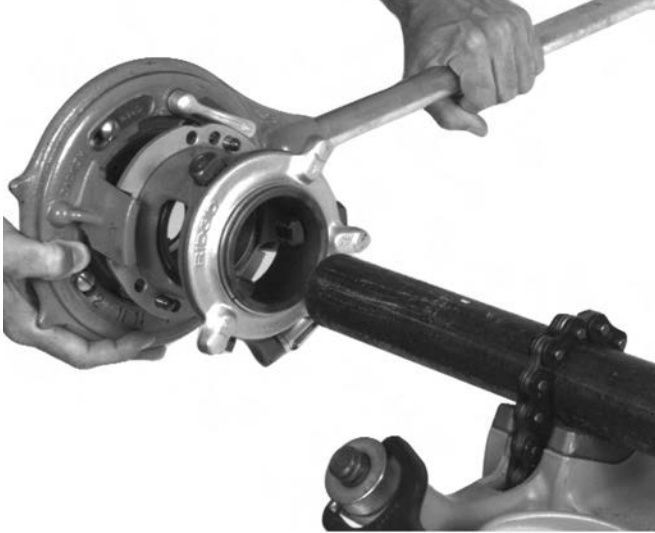

Figure 5 – Sliding Threader Onto Pipe
6. Turn release cam lever to the “closed” position. Slide threader on the pipe with the workholder end first (*Figure 5*). Center end of pipe in the throat of the dies.